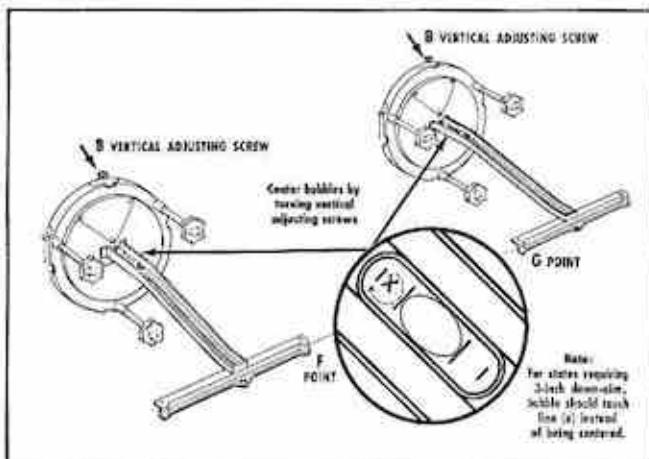

Fig. 114 Vertical Adjustment
- a. Center bubble by turning vertical adjusting screw B (Fig. 114). (To insure proper location, back screw out until bubble is at end of vial. Then turn screw clockwise to center bubble.) NOTE: For states requiring 3-inch down-aim, bubble should touch line (X) instead of being centered.